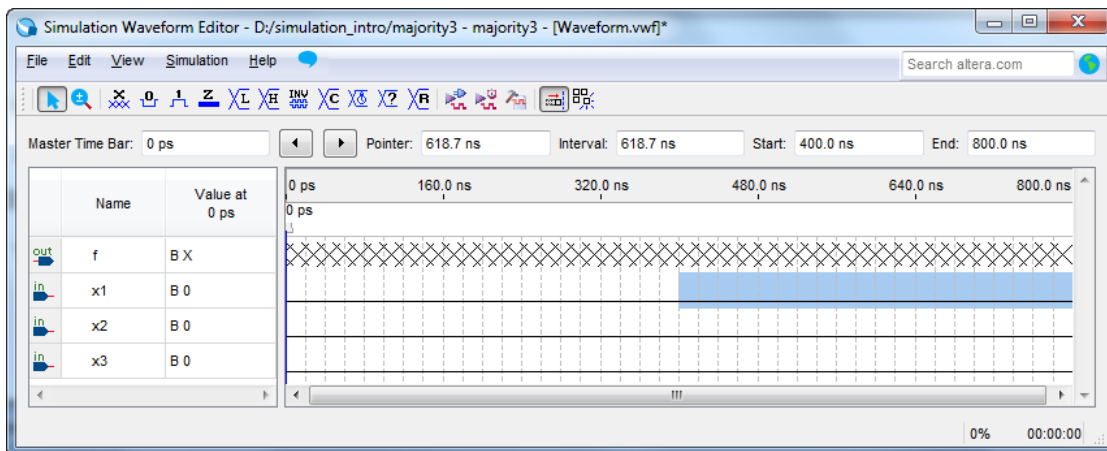
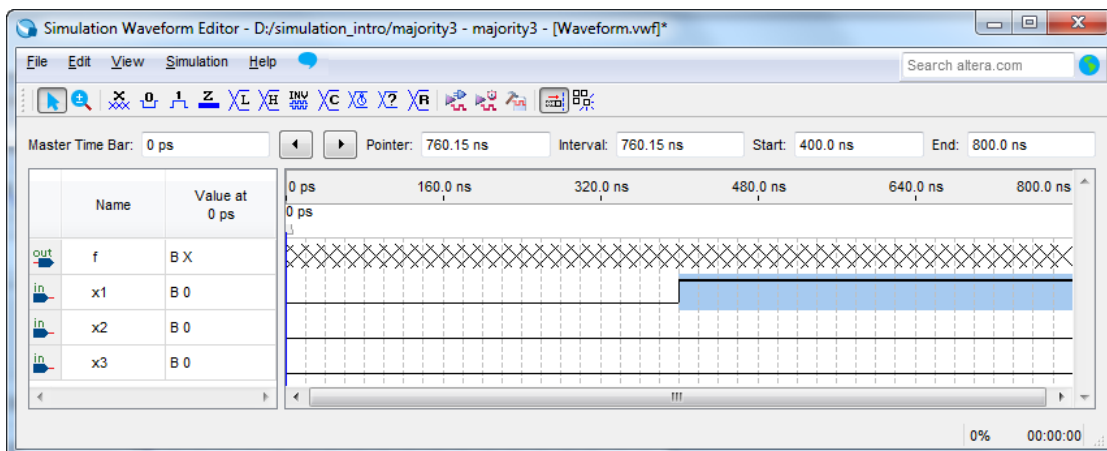

Figure 7. Selection of a time interval.
Figure 8. Drawing the waveform for *x1*
Input waveforms can be drawn in different ways. The most straightforward way is to indicate a specific time range and specify the value of a signal. To illustrate this approach, click the mouse on the *x1* waveform near the 400-ns point and then drag the mouse to the 800-ns point. The selected time interval will be highlighted in blue, as depicted in Figure 7. Change the value of the waveform to 1 by clicking on the Forcing High (1) icon , as illustrated in Figure 8.